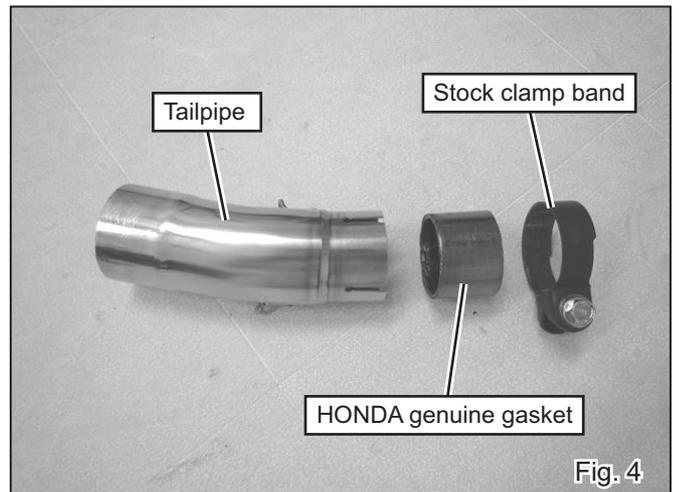

Fig. 4
- 5) Insert HONDA genuine gasket into front of Tailpipe and install stock clamp band removed at step 3) (See Fig. 4).